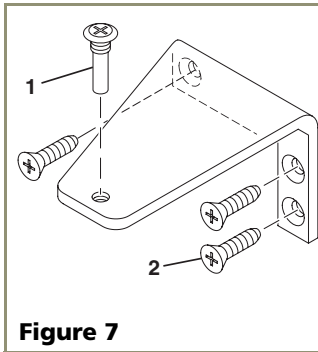

Figure 7
3. Remove top hinge (3 screws), reinstall hinge screw pin, and remount on opposite side **BOTTOM** (see **Figure 7**).